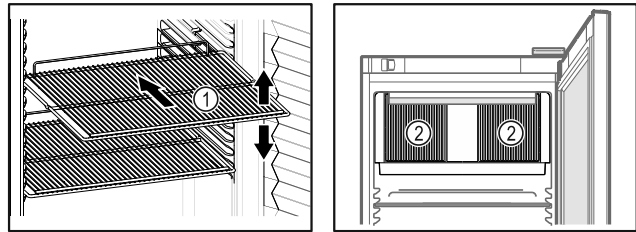

Fig. 61 Example illustration Fig. 62
- If there are adjustable shelves Fig. 61 (1), position them as required.